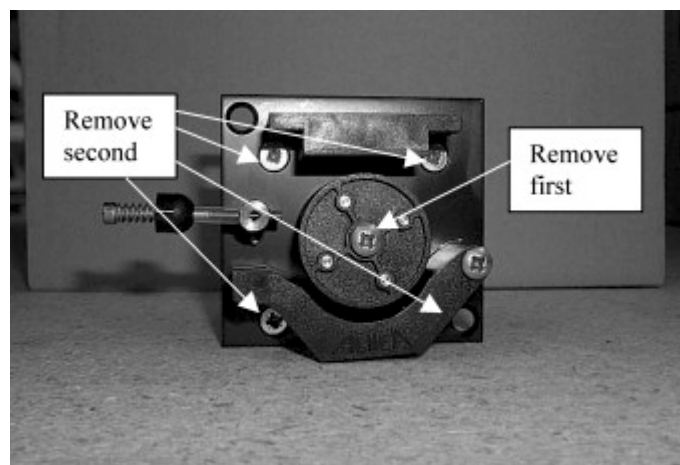

Figure 1-21 Front of pump on bracket
21. To remove pump plate from the new pump first remove the screw that holds the roller head assembly, behind the roller head there will be a small pin on the shaft of the motor remove it and keep the pin for installation. Then remove the outer 4 screws that are shown in figure1-21. Keep 2 of screws for installation to chassis.